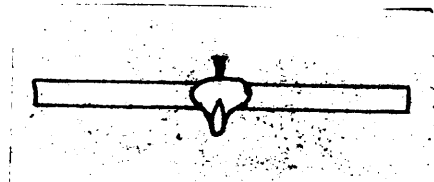

Figure 8.
4. Put a nail or screw in the clip to prevent any slipping. (Figure 8).